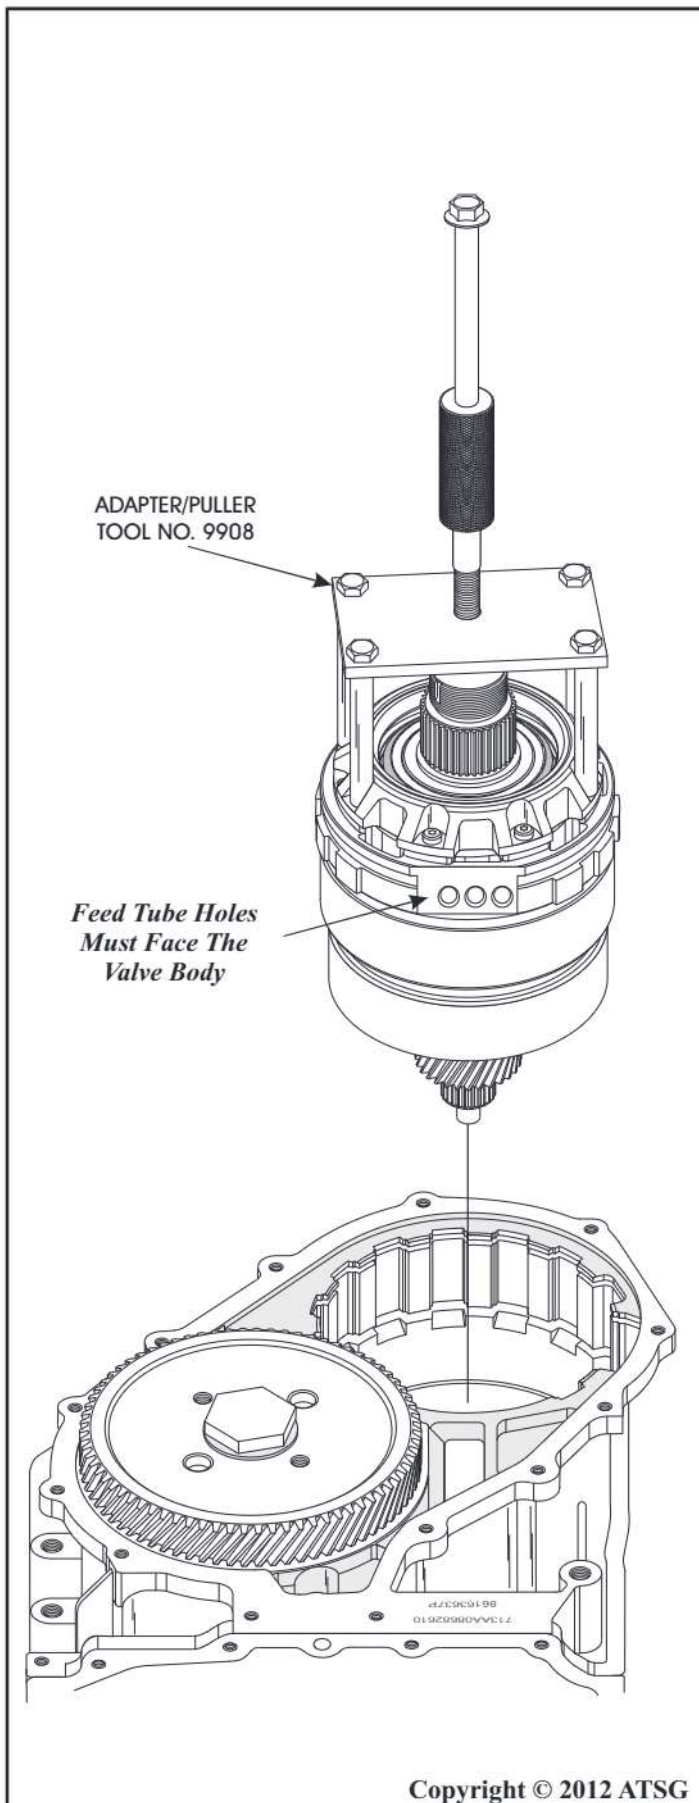

Figure 232
9. Install the pre-assembled compounder assembly using adapter/puller tool 9908, as shown in Figure 232.